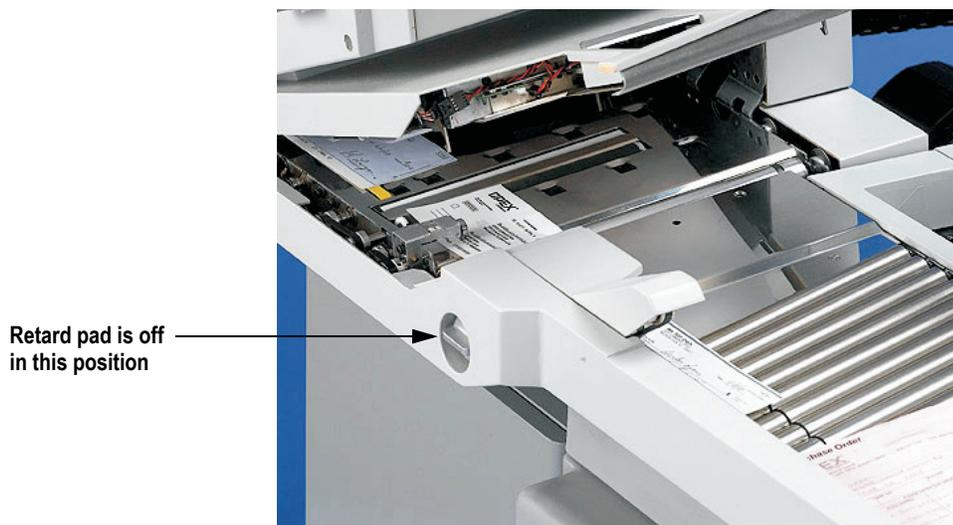

FIGURE 9: Adjust the retard pad switch
- 2 Set the retard pad switch to the desired position. To send a small stack of documents through the scanner at once, engage the retard pad switch. To send thicker documents through one at a time, set the switch to the Off position as shown in Figure 9.